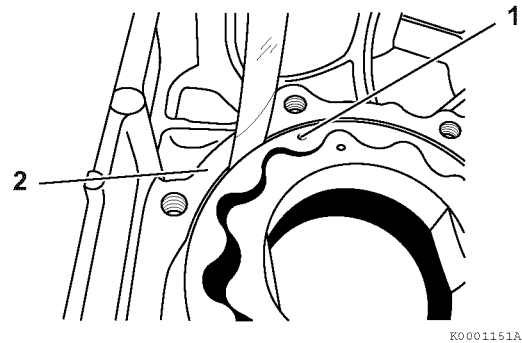

Figure 9-8
2. Determine the outside clearance of the outer rotor. Insert a feeler gauge between the outer rotor (1, **Figure 9-8**) and the gear case oil pump cavity (2, **Figure 9-8**).